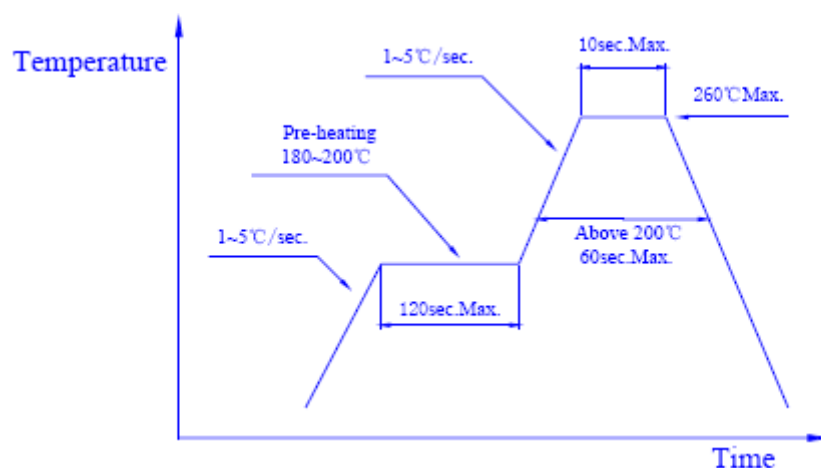

Fig.3
a. The temperature profile as shown in Fig.3 is recommended for soldering SMD LED by the reflow furnace.